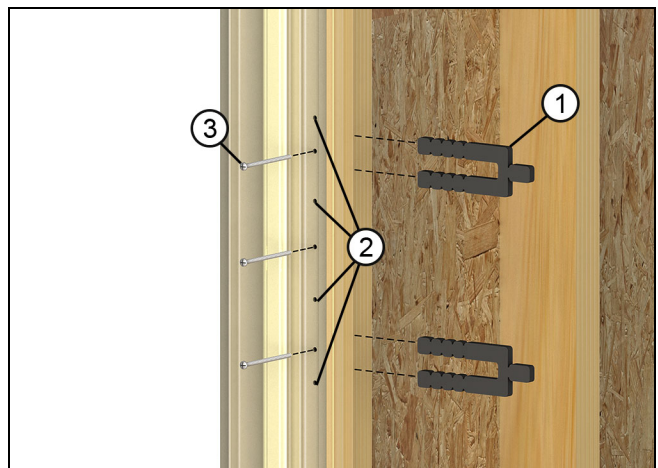

Figure 10
7. Leave specified pre-drilled holes on operator jamb open for keeper installation. Check jambs to be sure they are not bowed. Adjust shims and installation screws as necessary. See Figure 10.